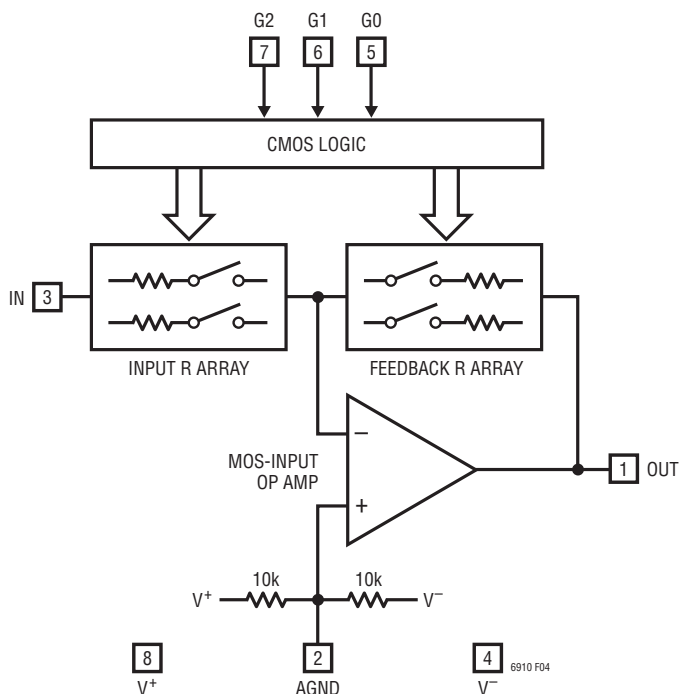
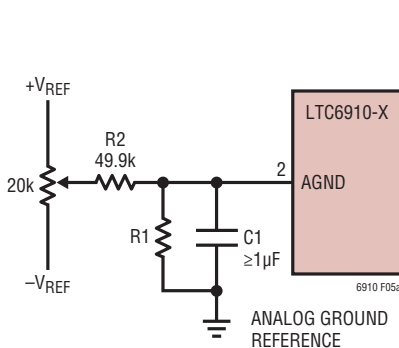

Figure 4. Block Diagram
Figure 5a. Offset Nulling
**AGND (Pin 2):** Analog Ground. The AGND pin is at the midpoint of an internal resistive voltage divider, developing a potential halfway between the  $V^+$  and  $V^-$  pins, with an equivalent series resistance to the pin of nominally 5k $\Omega$  (Figure 4). AGND is also the noninverting input of the internal op amp, which makes it the ground reference voltage for the IN and OUT pins. Because of this, very “clean” grounding is important, including an analog ground plane surrounding the package.
**IN (Pin 3):** Analog Input. The input signal to the amplifier in the LTC6910-X is the voltage difference between the IN and AGND pins. The IN pin connects internally to a digitally controlled resistance whose other end is a current summing point at the same potential as the AGND pin (Figure 4). At unity gain (digital input 001), the value of this input resistance is approximately 10k $\Omega$  and the IN voltage range is rail-to-rail ( $V^+$  to  $V^-$ ). At gain settings above unity (digital input 010 or higher), the input resistance falls. Also, the linear input voltage range falls in inverse proportion to gain. (The higher gains are designed to boost lower level signals with good noise performance.) Tables 1, 2, and 3 summarize this behavior. In the “zero” gain state (digital input 000), analog switches disconnect the IN pin internally and this pin presents a very high
The LTC6910 family are small outline, wideband inverting DC amplifiers whose voltage gain is digitally programmable. Each delivers a choice of eight voltage gains, controlled by the 3-bit digital inputs to the G pins, which accept CMOS logic levels. The gain code is always monotonic; an increase in the 3-bit binary number (G2 G1 G0) causes an increase in the gain. Table 1, Table 2 and Table 3 list the nominal voltage gains for LTC6910-1, LTC6910-2 and LTC6910-3 respectively. Gain control within each amplifier occurs by switching resistors from a matched array in or out of a closed-loop op amp circuit using MOS analog switches (Figure 4). Bandwidth depends on gain setting. Curves in the Typical Performance Characteristics section show measured frequency responses.
Settling time in the CMOS gain-control logic is typically several nanoseconds and faster than the analog signal path. When amplifier gain changes, the limiting timing is analog, not digital, because the effects of digital input changes are observed only through the analog output (Figure 4). The LTC6910-X’s logic is static (not latched) and therefore lacks bus timing requirements. However, as with any programmable-gain amplifier, each gain change causes an output transient as the amplifier’s output
The electrical tables list DC offset (error) voltage at the inputs of the internal op-amp in Figure 4,  $V_{OS(OA)}$ , which is the source of DC offsets in the LTC6910-X. The tables also show the resulting, gain dependent offset voltage referred to the IN pin,  $V_{OS(IN)}$ . These two measures are related through the feedback/input resistor ratio, which equals the nominal gain-magnitude setting, G:
Offset voltages at any gain setting can be inferred from this relationship. For example, an internal offset  $V_{OS(OA)}$  of 1mV will appear referred to the IN pin as 2mV at a gain setting G of 1, or 1.5mV at a gain setting of 2. At high gains,  $V_{OS(IN)}$  approaches  $V_{OS(OA)}$ . (Offset voltage can be of either polarity; it is a statistical parameter centered on zero.) The MOS input circuitry of the internal op amp in Figure 4 draws negligible input currents (unlike some op amps), so only  $V_{OS(OA)}$  and G affect the overall amplifier’s offset.
Because internal op amp offset voltage  $V_{OS(OA)}$  is gain independent as noted above, offset trimming can be readily added at the AGND pin, which drives the noninverting input of the internal op amp. Such a trim shifts the AGND voltage slightly from the system's analog ground reference, where AGND would otherwise connect directly. This is convenient when a low resistance analog ground potential or analog ground reference exists, for the return of a voltage divider as in Figure 5a. When adjusted for zero DC output voltage when the LTC6910-X has zero DC input voltage, this DC nulling will hold at other gain settings also.
Figure 5a shows the basic arrangement for dual-supply applications. A voltage divider (R1 and R2) scales external reference voltages  $+V_{REF}$  and  $-V_{REF}$  to a range equaling or slightly exceeding the approximately  $\pm 10\text{mV}$  op amp offset-voltage range. Resistor R1 is chosen to drop the  $\pm 10\text{mV}$  maximum trim voltage when the potentiometer is set to either end. Thus if  $V_{REF}$  is 5V, R1 should be about  $100\Omega$ . Note also that the two internal 10k resistors in Figure 4 tend to bias AGND toward the mid-point of  $V^+$  and  $V^-$ . The external voltage divider will swamp this effect if R1 is much less than  $5\text{k}\Omega$ . When considering the effect of the internal 10k resistors, note that they form a Thévenin equivalent of  $5\text{k}$  in series with an open-circuit voltage at the halfway potential  $(V^+ + V^-)/2$ . (Although
With this trim technique in place, the remaining DC offset sources are drifts with temperature (typically  $6\mu\text{V}/^\circ\text{C}$  referred to  $V_{OS(OA)}$ ), shifts in the LTC6910-X's supply voltage divided by the PSRR factors, supply voltage shifts coupling through the two 10k internal resistors of Figure 4, and of course any shifts in the reference voltages that supply  $+V_{REF}$  and  $-V_{REF}$  in Figure 5a.
At a gain setting of 10V/V in an LTC6910-1 (digital input 100) and a 250ksps sampling rate in the LTC1864, a 10kHz input signal at 60% of full scale shows a THD of -87dB at the digital output of the ADC. 100kHz input signals under the same conditions produce THD values around -75dB. Noise effects (both random and quantization) in the ADC are divided by the gain of the amplifier when referred to  $V_{IN}$  in Figure 4. Because of this, the circuit can acquire a signal that is 40dB down from full scale of 5VP-P with an SNR of over 70dB. Such performance from an ADC alone ( $70 + 40 = 110\text{dB}$  of useful dynamic range at 250ksps), if available, would be far more expensive.